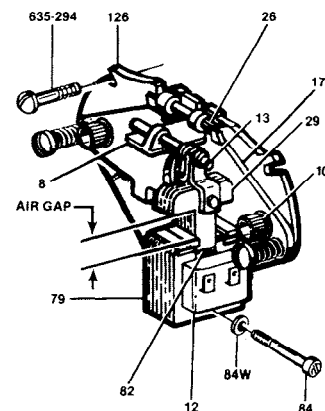

Figure 8. Motor Brake Adjustment
The motor brake should be checked periodically for wear of the friction discs and/or proper adjustment of the solenoid air gap. Refer to Figure 8. Normal lining wear will cause the solenoid lever (8) to move away from the solenoid frame (79) and thus increase the air gap and trolley stopping time.
(Refer to Figure 8 on page 7 and Figure 15 on page 19).